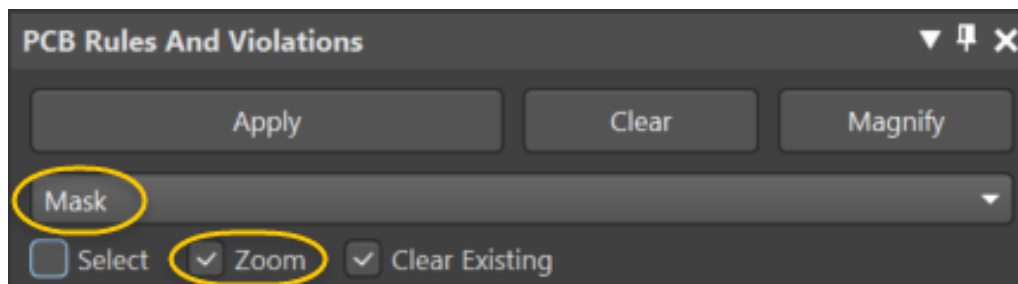

Figure 9. Mask control in the PCB Rules and Violations panel
20. We would like our view to be zoomed into the violation, as well as mask the rest of the PCB to improve the visibility of the violation. In the *PCB Rules and Violations* panel, change the highlight options from **Normal** to **Mask** and enable the **Zoom** option as shown in Figure 9.